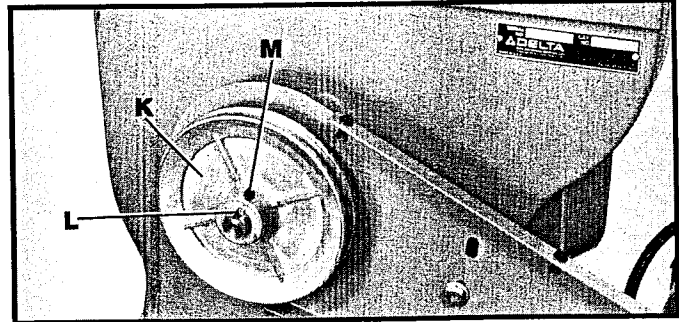

Fig.13
5. Assemble the arbor pulley (K) Fig. 13, to arbor shaft with hub of pulley in the "out" position. Insert key (L) in keyway of arbor shaft and tighten set screw (M).